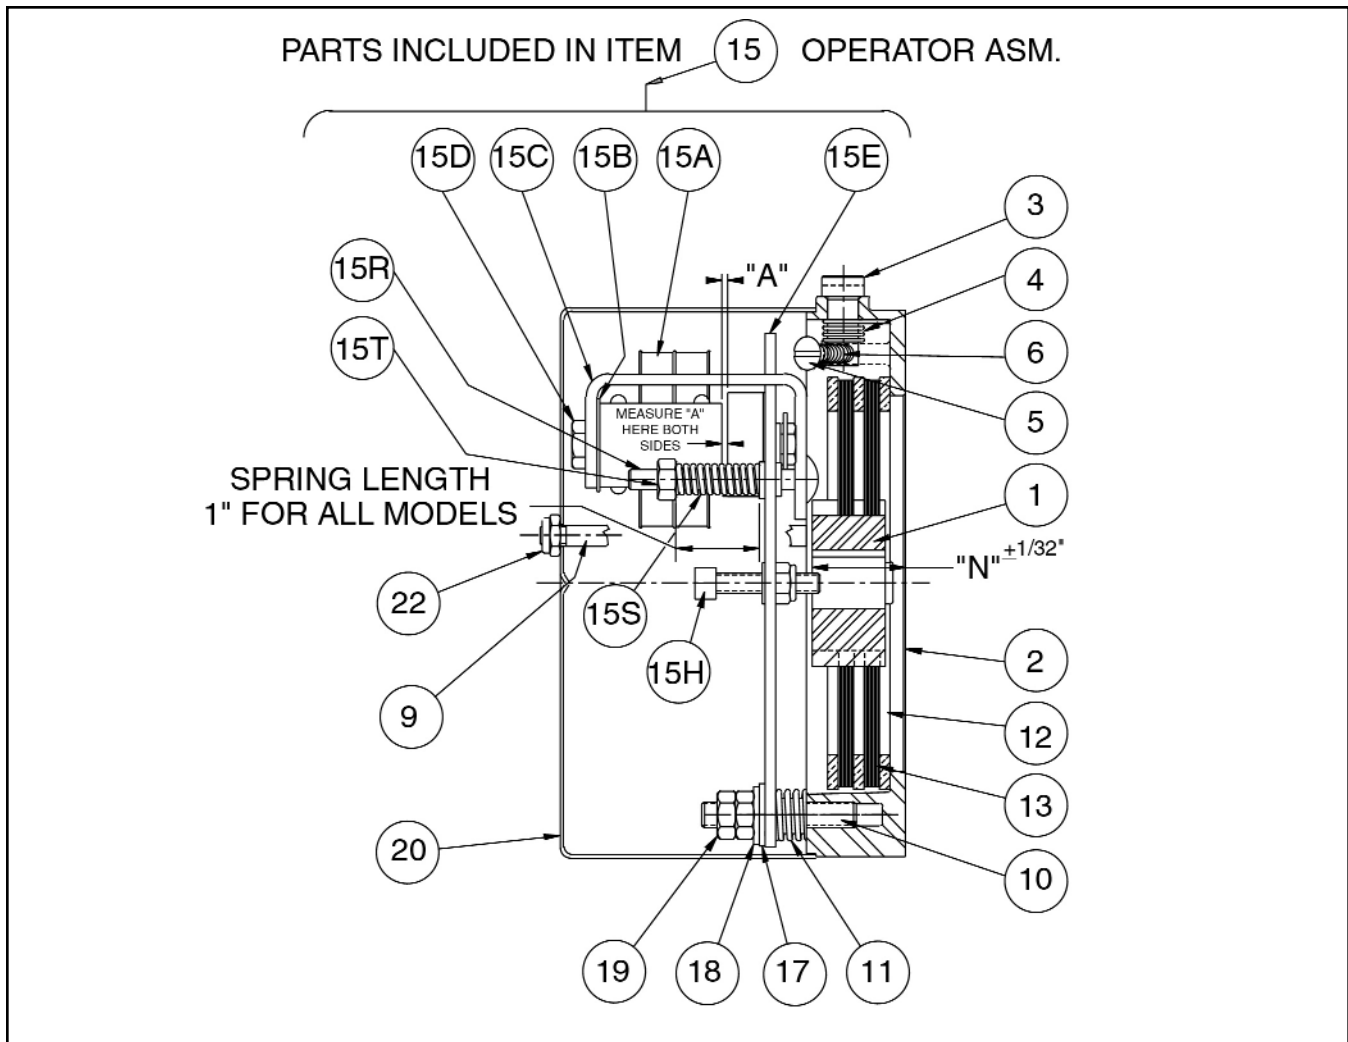

Figure 3
Numbers in parentheses refer to parts illustrated in Figs. 3, 5, 6 and 9.
Before air gap "A" reaches .100", adjustment is required. Any delay in adjusting the magnet air gap will result in eventual loss of torque. Refer to Fig. 3.
The magnetic disc brake is factory set for rated static torque. The brake can be adjusted to reduce torque which increases stopping time. Do not attempt to adjust brake for higher torque, as this will cause premature coil burnout. (Refer to Fig. 3)
5. Re-assembly of operator assembly (15)
Refer to Figs. 3 and 9. (Capscrew (16) is shown in Fig. 9 and not Fig. 3)
4. Reassemble to magnet bracket (15C) using items (15R), (15S) and (15T). Reassemble operator assembly to brake bracket. Set magnet air gap "A" and set torque springs (15S) to 1" as shown in Fig. 3.